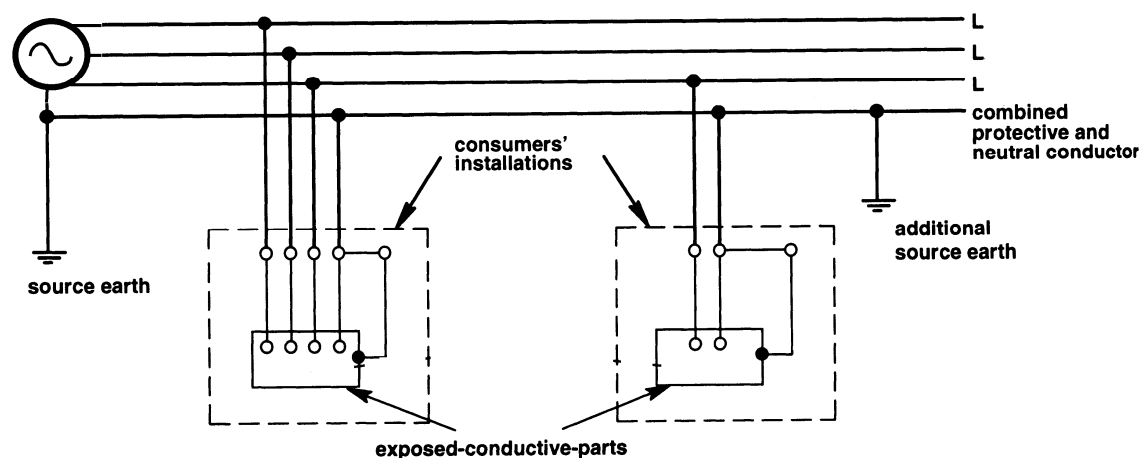

Fig A-1 – TN-C-S (PME) system
**TN-C-S system:** Both TN-C and TN-S configurations are used in different parts of the system. This configuration is also known as '*Protective Multiple Earthing (PME)*'. (Figure A-1) The TN-C-S system is the most common system worldwide, used in the Americas,